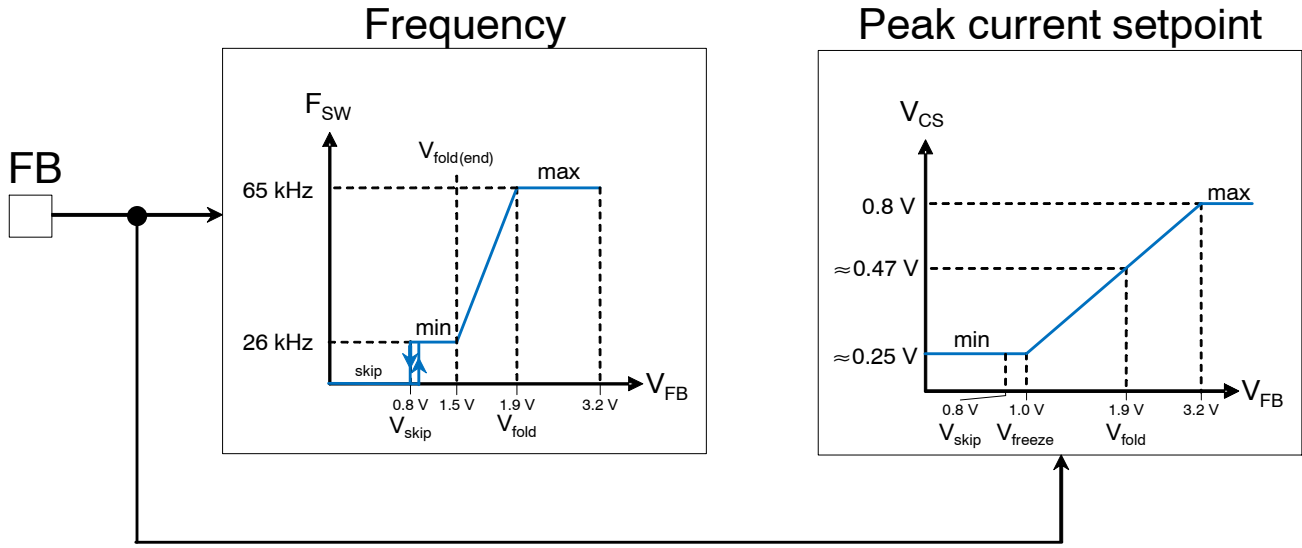

Figure 43. By Observing the Voltage on the Feedback Pin, the Controller Reduces its Switching Frequency for an Improved Performance at Light Load
1.5 V, the frequency is fixed and cannot go further down. The peak current setpoint is free to follow the feedback voltage from 3.2 V (full power) down to 1 V. At 1 V, as both frequency and peak current are frozen (250 mV or  $\approx 31\%$  of the maximum 0.8-V setpoint) the only way to further reduce the transmitted power is to enter skip cycle. This is what happens when the feedback voltage drops below 0.8 V typically. Figure 43 depicts the adopted scheme for the part.